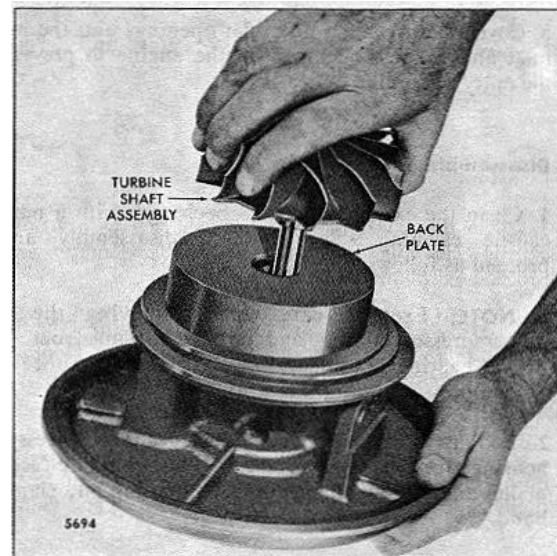

FIG. 7 - Removing Turbine Shaft Assembly and Backplate from Bearing Housing
7. Remove the turbine wheel and shaft assembly and backplate from the bearing housing (Fig. 7). The shaft should slip freely out of the bearings after the initial release by tapping.